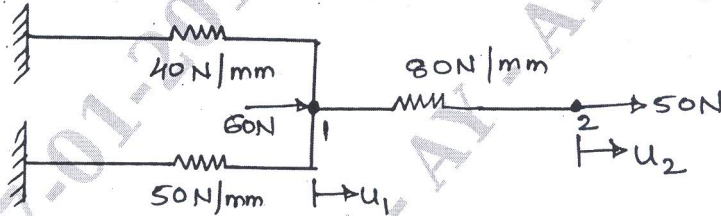

Fig Q1(a)
- 1 a. Determine the displacements of nodes of the spring system shown in Fig Q1(a).